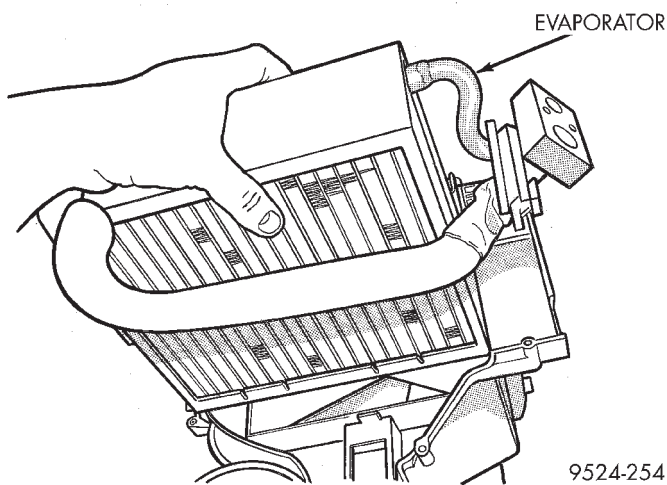

Fig. 40 Remove Evaporator From Housing
(9) Lift evaporator out of lower housing (Fig. 40).
(10) Remove styrofoam seal around evaporator.
(11) Transfer evaporator sensor. Place the evaporator sensor in the same location as on the previous evaporator.